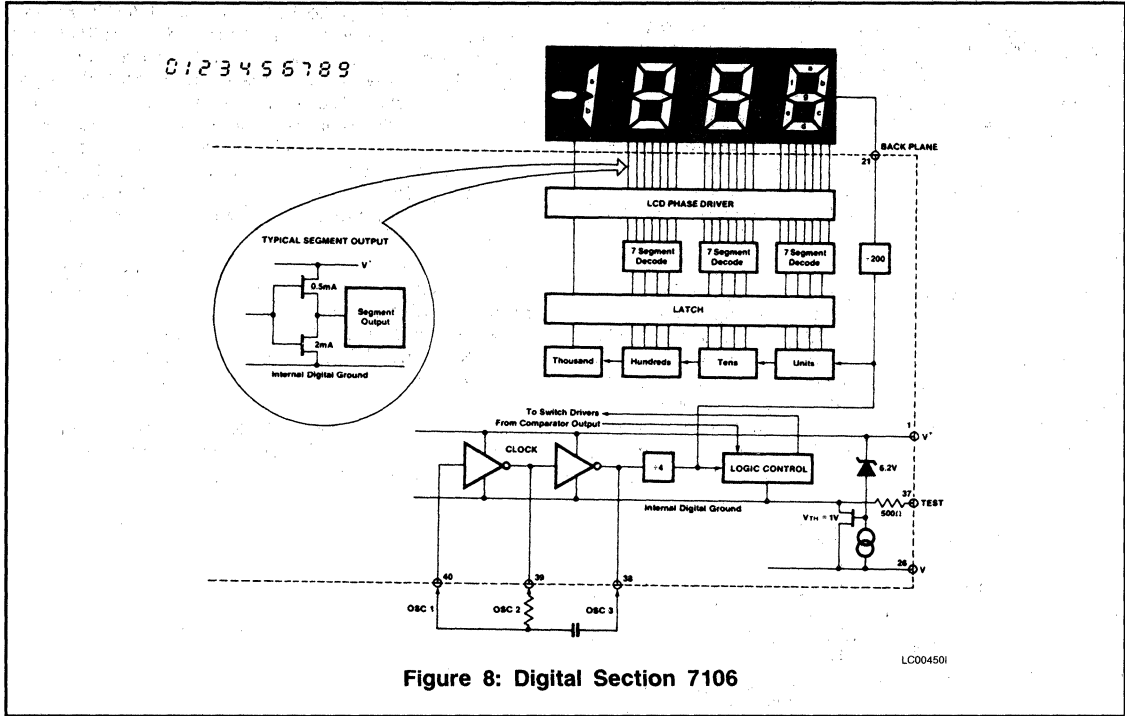

Figure 8: Digital Section 7106
The TEST pin serves two functions. On the 7106 it is coupled to the internally generated digital supply through a 500 $\Omega$  resistor. Thus it can be used as the negative supply for externally generated segment drivers such as decimal points or any other presentation the user may want to include on the LCD display. Figures 8 and 9 show such an application. No more than a 1mA load should be applied.
Figures 8 and 9 show the digital section for the 7106 and 7107, respectively. In the 7106, an internal digital ground is generated from a 6 volt Zener diode and a large P channel source follower. This supply is made stiff to absorb the relative large capacitive currents when the back plane (BP) voltage is switched. The BP frequency is the clock frequency divided by 800. For three readings/second this is a 60Hz square wave with a nominal amplitude of 5 volts. The segments are driven at the same frequency and amplitude and are in phase with BP when OFF, but out of phase when ON. In all cases negligible DC voltage exists across the segments.